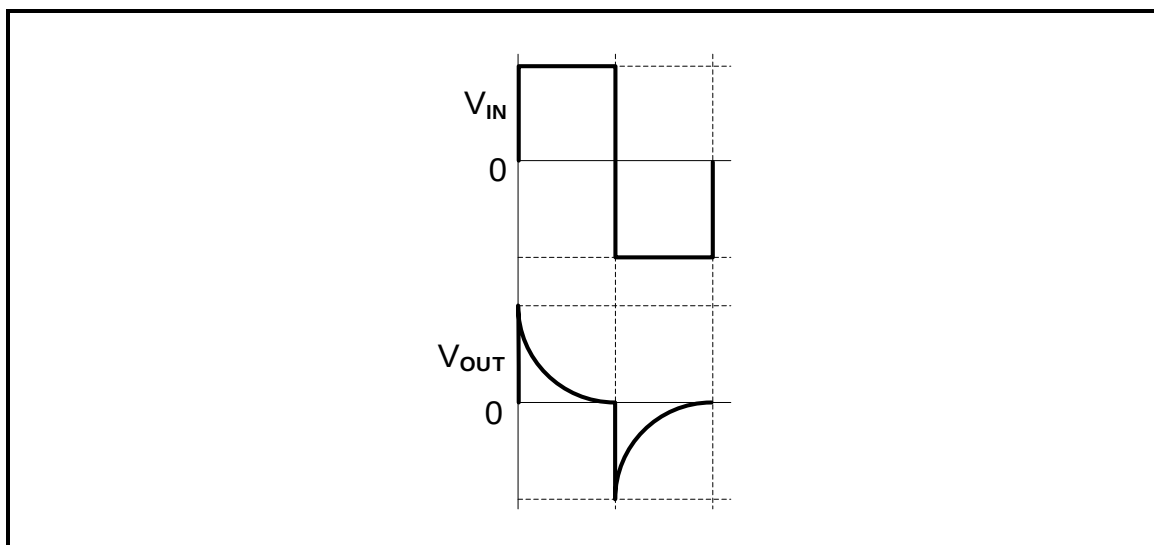

FIGURE 3.9: PASSIVE RC DIFFERENTIATOR WAVEFORMS
3.9 FIGURE 3.9 below shows the input and output waveforms for a short time constant in a passive RC differentiator circuit. Answer the questions that follow.